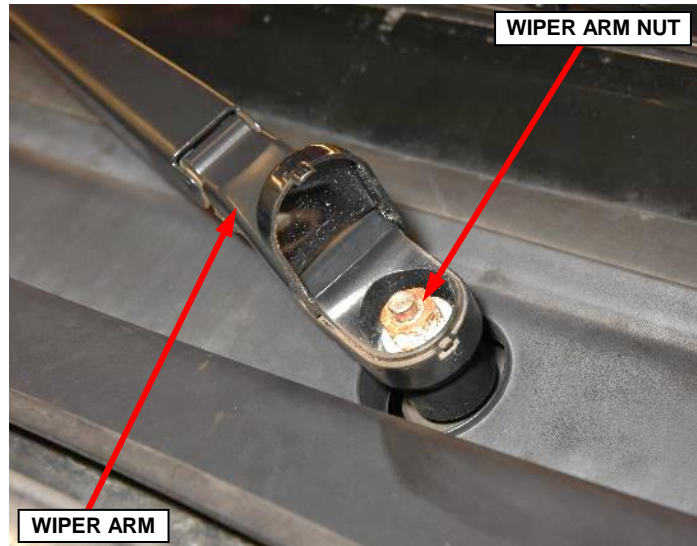

Figure 36 – Front Wiper Arm Nut
11. Install the nut that secures the wiper arm to the pivot shaft. Tighten the nut to 21 N·m (16 ft. lbs.) (Figure 36).